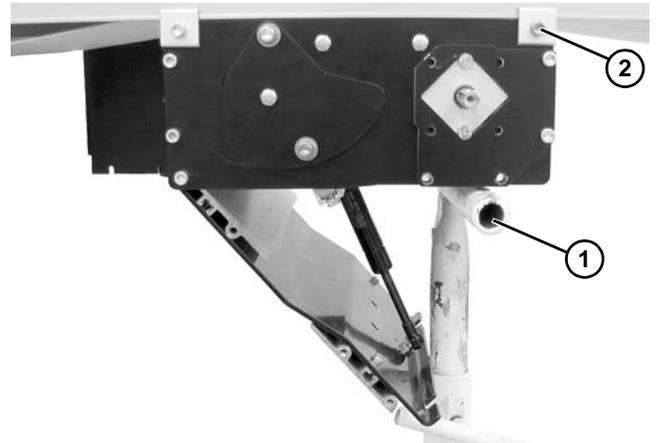

Figure 52
1. Place temporary support (Figure 52, item 1) underneath the drive module.
2. Loosen clamp screws (Figure 52, item 2) on each corner of the module. Remove the module.